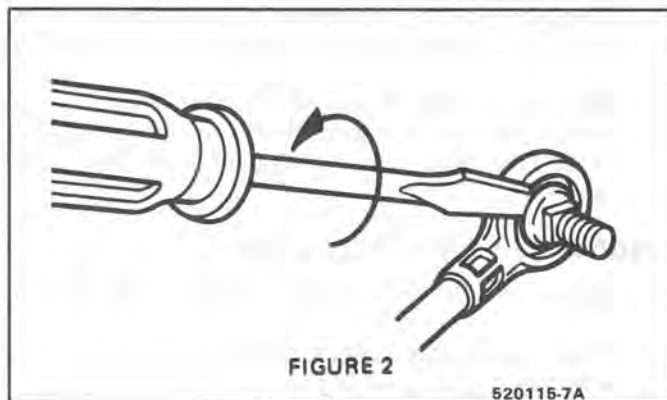

Fig. 3 Cable Removal (Without Plug)
- If cable end does not have a plug, use a screwdriver or flat tool as shown in Fig. 3.